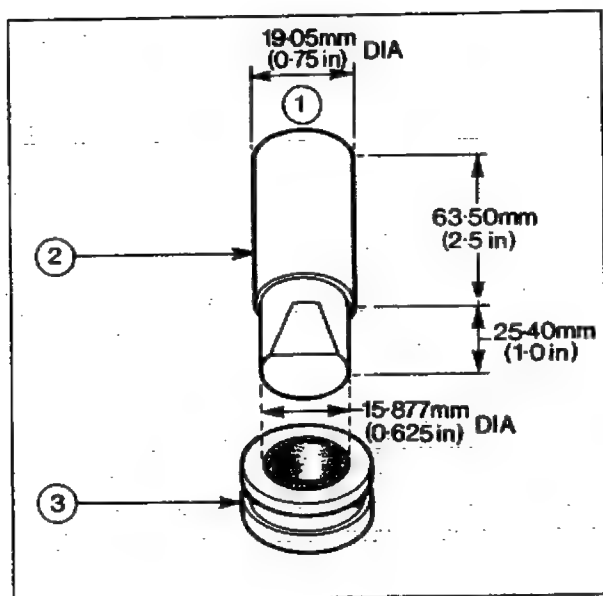

Fig. 51 — Slip Ring Press Tool
17. Place press tool (see Fig. 51) so that the spigot registers in the slip-ring bore with the cut-away portion in line with the field leads. Gently press the slip-ring down until the press tool spigot abutts the rotor shaft. Feed the field leads through cut-away portion of press tool as they appear.